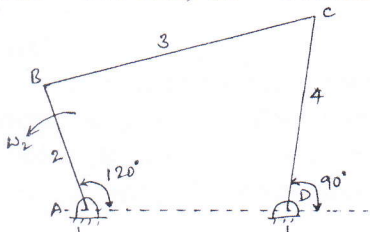

Fig.Q5
- 5 The four bar mechanism ABCD is shown in Fig.Q5 which is driven by link 2 at $\omega_2 = 45\text{ rad/sec}$ counter clockwise. Find the angular velocities of links 3 and 4 by using complex algebra method. Take $AB = 100\text{ mm}$, $CD = 300\text{mm}$, $AD = 250\text{mm}$.